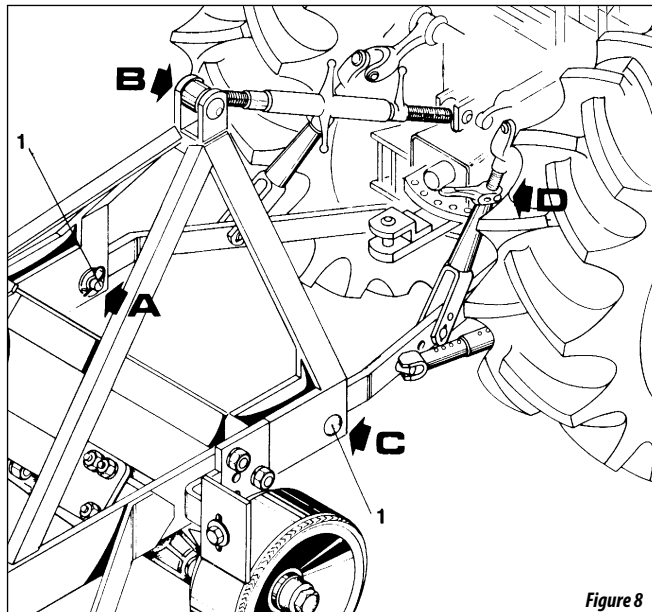

Figure 8
04 - Hitch the lower left arm of tractor with the clamp pin as item 1 figure 8, at "A" support of subsoiler.
06 - Finally with the help of regulator handle of high "D" hitch the right lower arm of tractor at the "C" support of subsoiler as shown the figure 8. Turn the handle supporte and the counter pin.